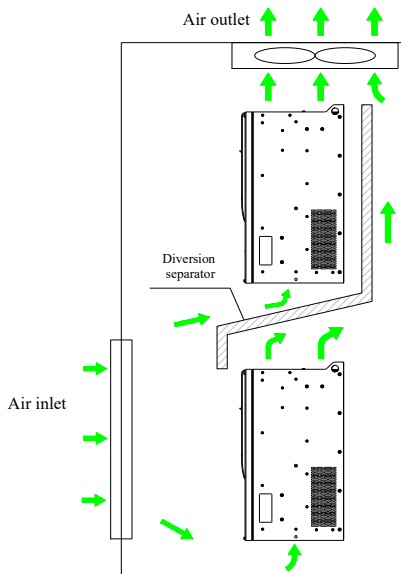

Fig. 3-4 Installation Requirements for Upper and Lower Rows
- Vertical and upward installation of the VFD is conducive to upward heat dissipation. VFDs, if there are many of them in cabinet, shall be installed side by side. Figure 3-4 shows the way to install vertically with heat insulation guide plate;